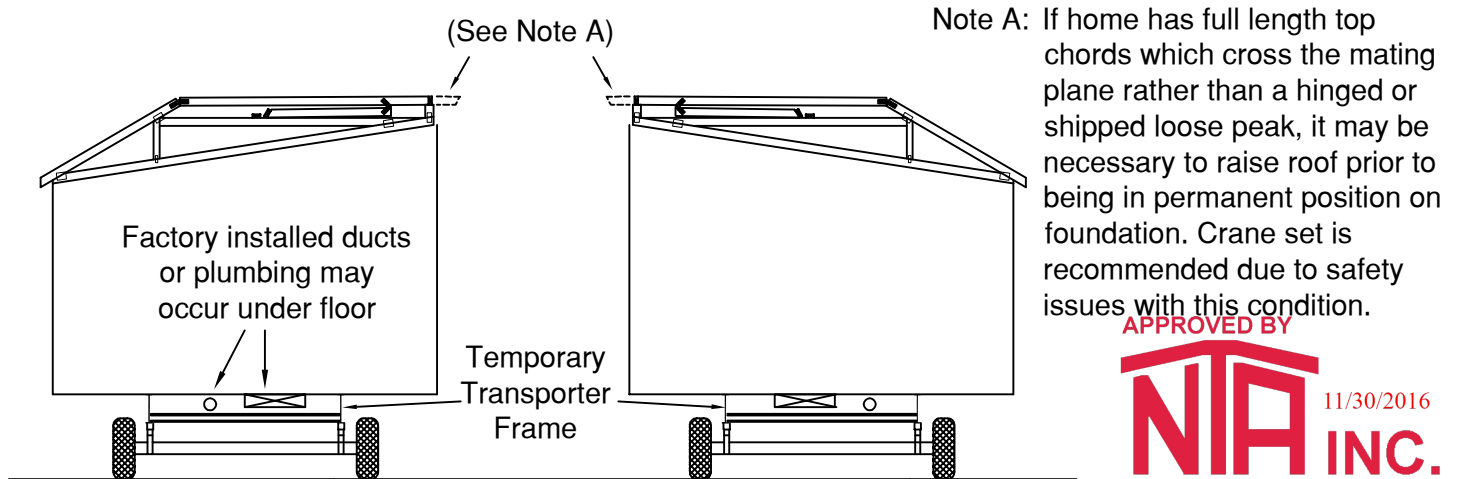

Fig. 4.8 - Roof (Collapsed Position)
1. The home has been shipped with the roof in it's collapsed position as shown in Fig. 4.8 below. Remove all shipping material from the roof and mating walls of both home sections.